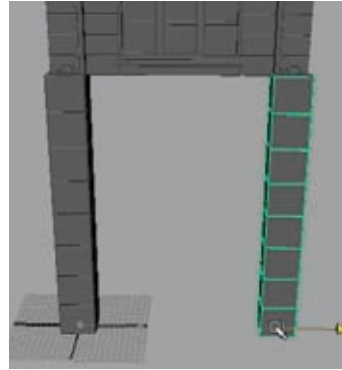

Figure 5.46
6. Duplicate the entire column and group it together (Ctrl+G). Move the new column 35 units over. This gives you the two sides of the base module (Figure 5.46).